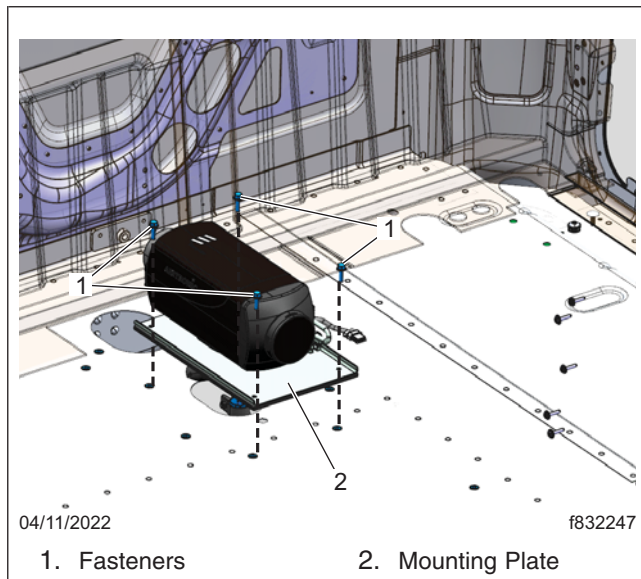
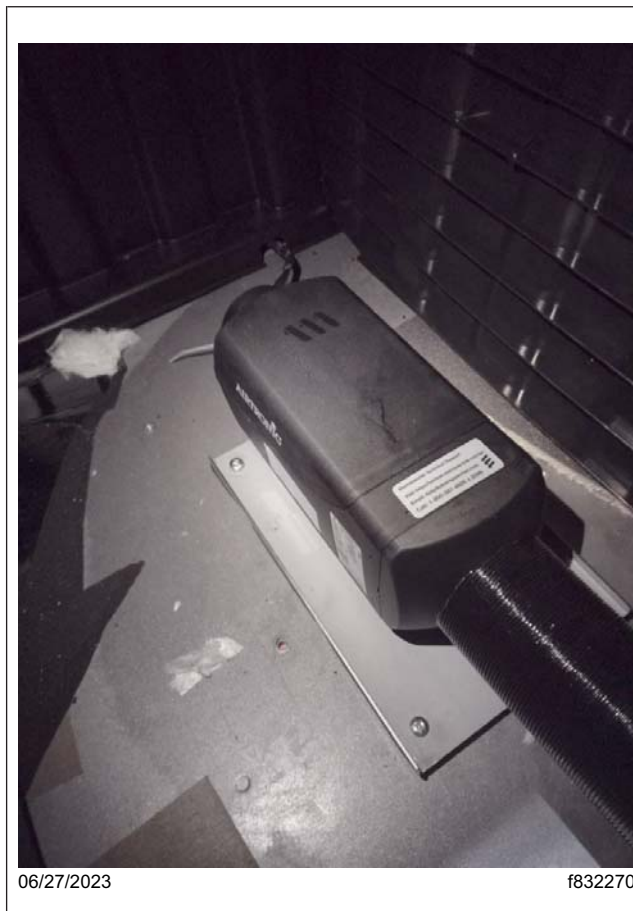

Fig. 9, Aligning the Auxiliary Heater Mounting Holes with the Sleeper Floor
Fig. 10, Auxiliary Heater Attached to the Sleeper Floor
14. Position the Espar heater on the sleeper floor, and align the four mounting holes with the threaded inserts on the sleeper floor. Install the four fasteners that attach the auxiliary heater mounting plate to the sleeper floor. See Fig. 9 and Fig. 10.